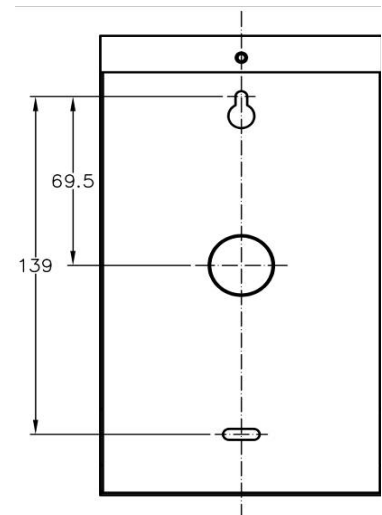

Figure 6.1 – LCS Mounting Positions
2. Mount the base of the LCS on the wall using the mounting holes shown in Figure 6.1